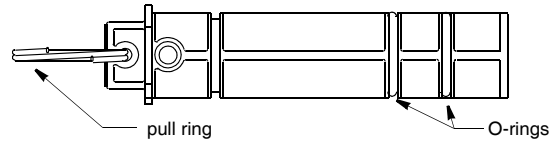

Figure 1. Blanking plug (B744V shown)
1. O-rings must be intact and well lubricated to make a watertight seal. Lubricate the replacement O-rings with silicone lubricant or petroleum jelly (Vaseline®). *Replace the two O-rings near the bottom of the blanking plug. Do not place them near the pull ring* (see Figure 1).